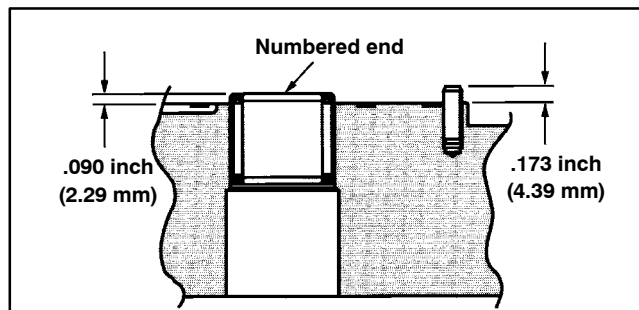

Figure 43
A. Check the bearing (45) (press fit) in backplate (20). If needles remain in cage, move freely, and setting is at the dimension shown in Figure 43, bearing removal is not required.
B. Check roll pin (38) in backplate (20). If tight and set to the dimension shown in Figure 43, removal not required.
5. Install new seal washer (4), washer (29), and jam nut (1) to servo piston bolt. Holding servo piston bolt with hex key wrench, torque jam nut from 150 to 160 in-lb (17 to 18 N-m). Check the centering of servo piston assembly (7). Install new cover plate gasket (33) and cover plate (9) to open side of servo piston and retain with four washers (31) and socket head screws (5). Torque screws from 40 to 48 in-lb (4.5 to 5.4 N-m).
6. Press dowel bushings (40) into cradle and secure bushing (44) onto cradle with button head cap screw (43). Torque button head cap screw from 14 to 16 in-lb (1.6 to 1.8 N-m).
7. Place cradle sub-assembly (41) into housing (19) making sure dowel bushings (40) and cradle (41) are completely seated into housing. Retain cradle sub-assembly with two cap screws (42) after applying Loctite #277 (or equivalent) to the end of threads. Torque cap screws from 25 to 28 ft-lb (34 to 38 N-m).
8. Place exterior retaining ring (3), thrust race (12), thrust bearing (13), second thrust race (12), and second retaining ring (3) onto drive shaft (21). Position washer (24) and shaft seal (25) onto shaft.
9. Install shaft assembly into front of housing. Seat seal (25) into position with seal driver and retain with interior retaining ring (2).
10. Install servo piston follower (8) onto camplate dowel pin. Install camplate (11) carefully onto bushing (44) (coat bushing surface with hydraulic oil), aligning servo piston follower (8) with slot in servo piston assembly (7).
11. Position housing in a horizontal position. Holding camplate (11) in position with screw driver through controller linkage passageway at the top of housing, place rotating kit assembly (6) over shaft and into housing until pistons are against camplate (11). Make sure all parts are in housing completely and are properly positioned. Return the pump to the vise with open end of housing up, clamping housing on the outer portion of the flange.
12. Install gasket (32) onto housing.
13. If necessary, press new bearing (45) and roll pin (38) in backplate (20) to dimension shown in Figure 43. Note: Bearing should be installed with the numbered end outward. Roll pin should be installed with split oriented away from bearing.
15. Install new o-ring on bypass valve (14). Install bypass valve (14) into backplate (20). Note: Make sure paddle of bypass valve is perpendicular to relief valve axis prior to installing or damage could result.
16. Apply a small amount of petroleum jelly to the steel side of valve plate (18) to hold in place for installation. Aligning the index pin, place the valve plate (18) in position onto the backplate (20), with steel side against backplate.
17. Install backplate assembly (20) onto housing assembly (19). Make sure ports are positioned correctly, and that valve plate (18) and gasket (32) stay in place.
18. Retain backplate (20) with four cap screws (15). Torque cap screws from 27 to 31 (37 to 42 N-m).
19. Install control housing gasket (34) onto housing. Install orifices (30) into servo control assembly (28) and retain in position with petroleum jelly. Position the feedback link at 90 degrees from control housing. Install manual servo control assembly (28) onto housing making sure feedback link entered small groove in servo piston assembly (7).
20. Secure control assembly with six socket head screws (17). Torque screws from 40 to 48 in-lb (4.5 to 5.4 N-m).
21. Install control arm (27) onto control assembly input shaft. Retain with lock washer (23) and nut (22). Torque nut from 4 to 6 ft-lb (5 to 8 N-m).